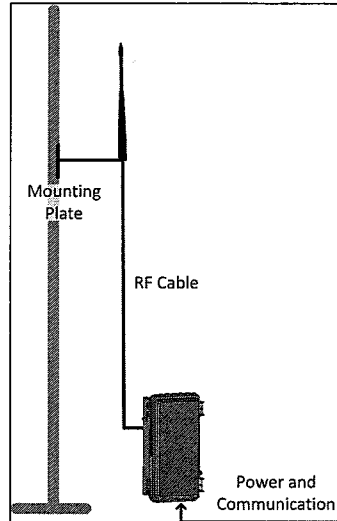

Figure 4: RLINK Antenna Installed on a Pole
- Mount the antenna on a pole and connect it to the RLINK using RF cable (Figure 4).
- a) Option 1: Connect the antenna via the supplied RG-58 cable and antenna mounting clip (Figure 4).